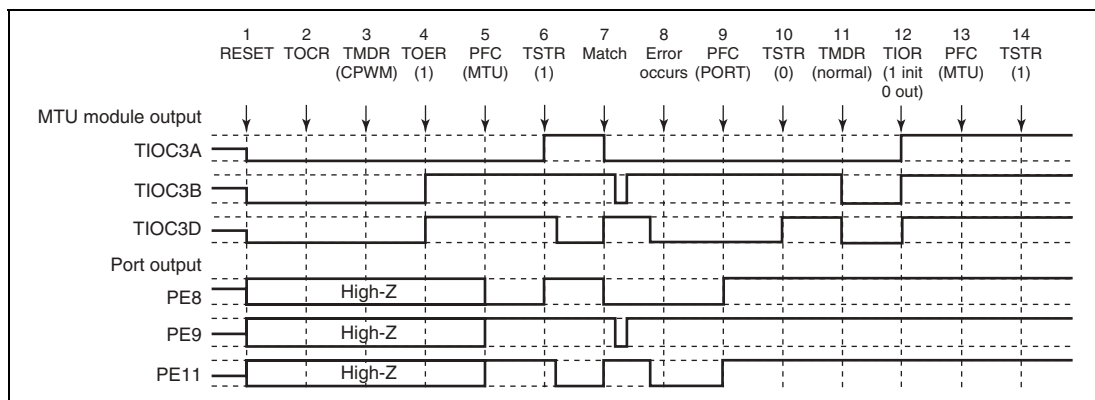

**Figure 11.105 Error Occurrence in Complementary PWM Mode, Recovery in Normal Mode**
**Operation when Error Occurs during Complementary PWM Mode Operation, and Operation is Restarted in Normal Mode:** Figure 11.105 shows an explanatory diagram of the case where an error occurs in complementary PWM mode and operation is restarted in normal mode after re-setting.
1 to 10 are the same as in figure 11.105.